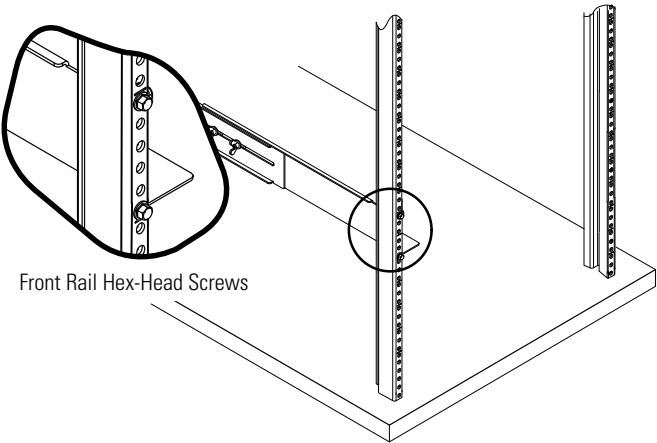

Figure 4. Securing the Front Rail
- 3. Secure the rail to the front of the rack with two hex-head screws (see Figure 4).